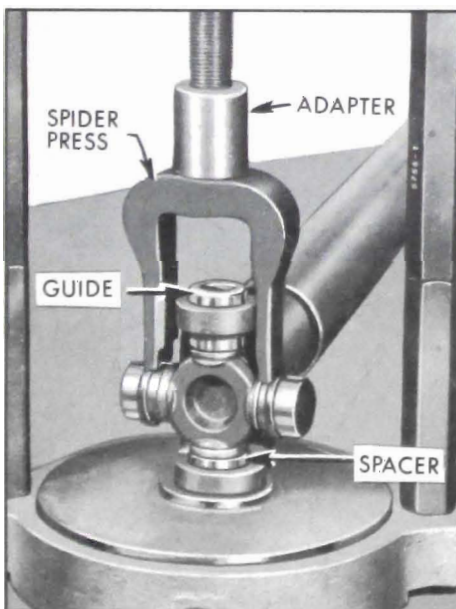

Figure 6-65—Removing Bearing With Guide and Spacer in Place
6. Install Spacer J-9522-6 adjacent to the bearing as in Step 4 and remove the bearing. See Figure 6-65.